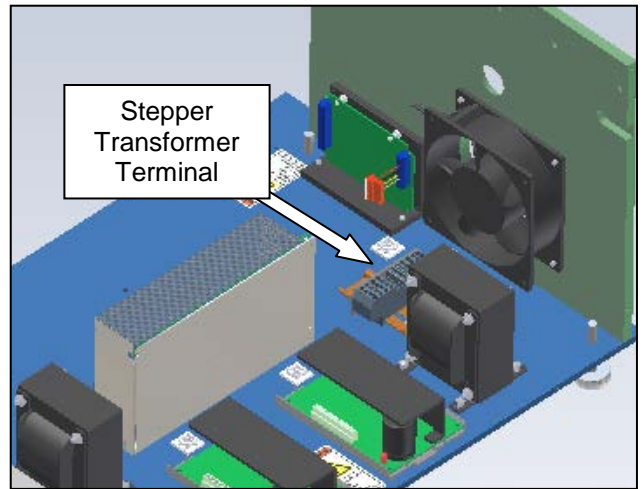

Figure 3-65 Print Head Stepper Drive
1. Locate the two terminal blocks with the Red wires connected to the transformer (Figure 3-65).